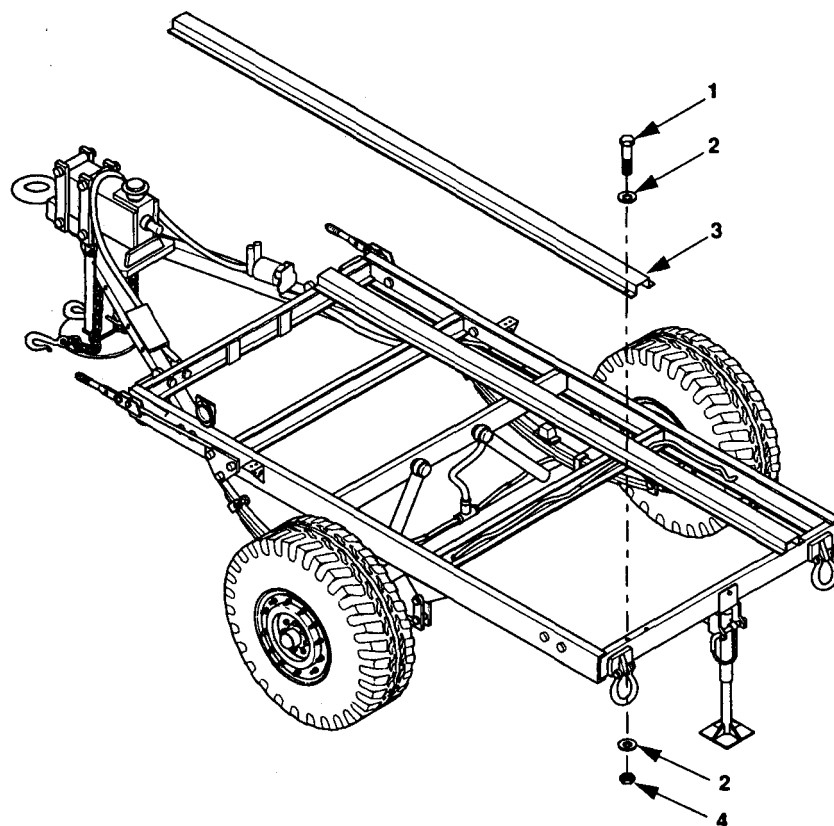

Figure 5-23. Replace PU-797 Generator Mounting Rail.
Remove self-locking nuts (4, figure 5-23), flat washers (2), cap screws (1), and mounting rail (3).